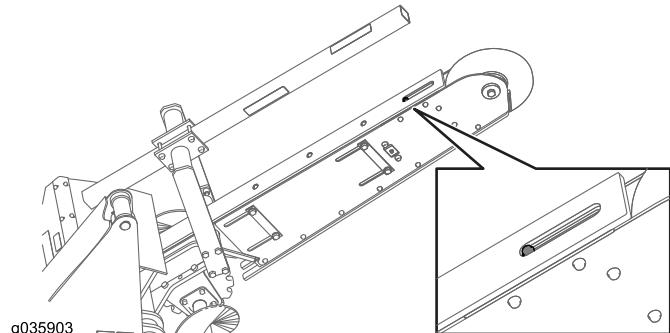

Figure 35
- 5 bolts for the large boom (Figure 35)